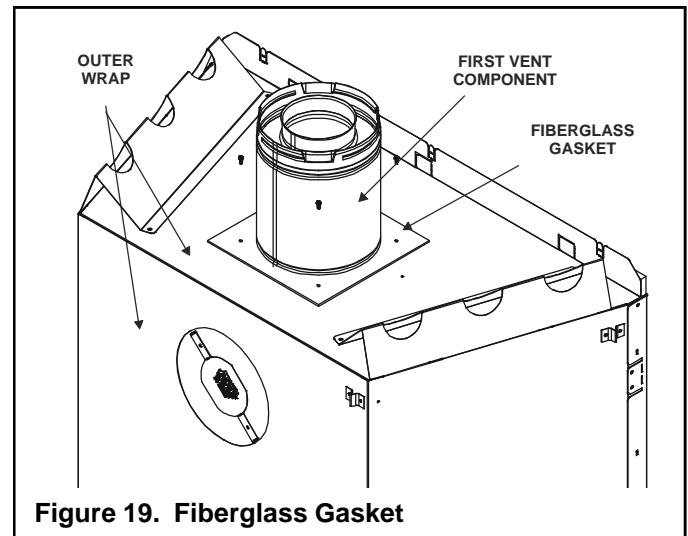

Figure 19. Fiberglass Gasket
- Make sure that the fiberglass gasket supplied in the manual bag seals between the first 8-5/8 inch (219mm) vent component and the outer fireplace wrap. Using 2 self-tapping screws from the manual bag secure that gasket to the outer wrap (see Figure 19).